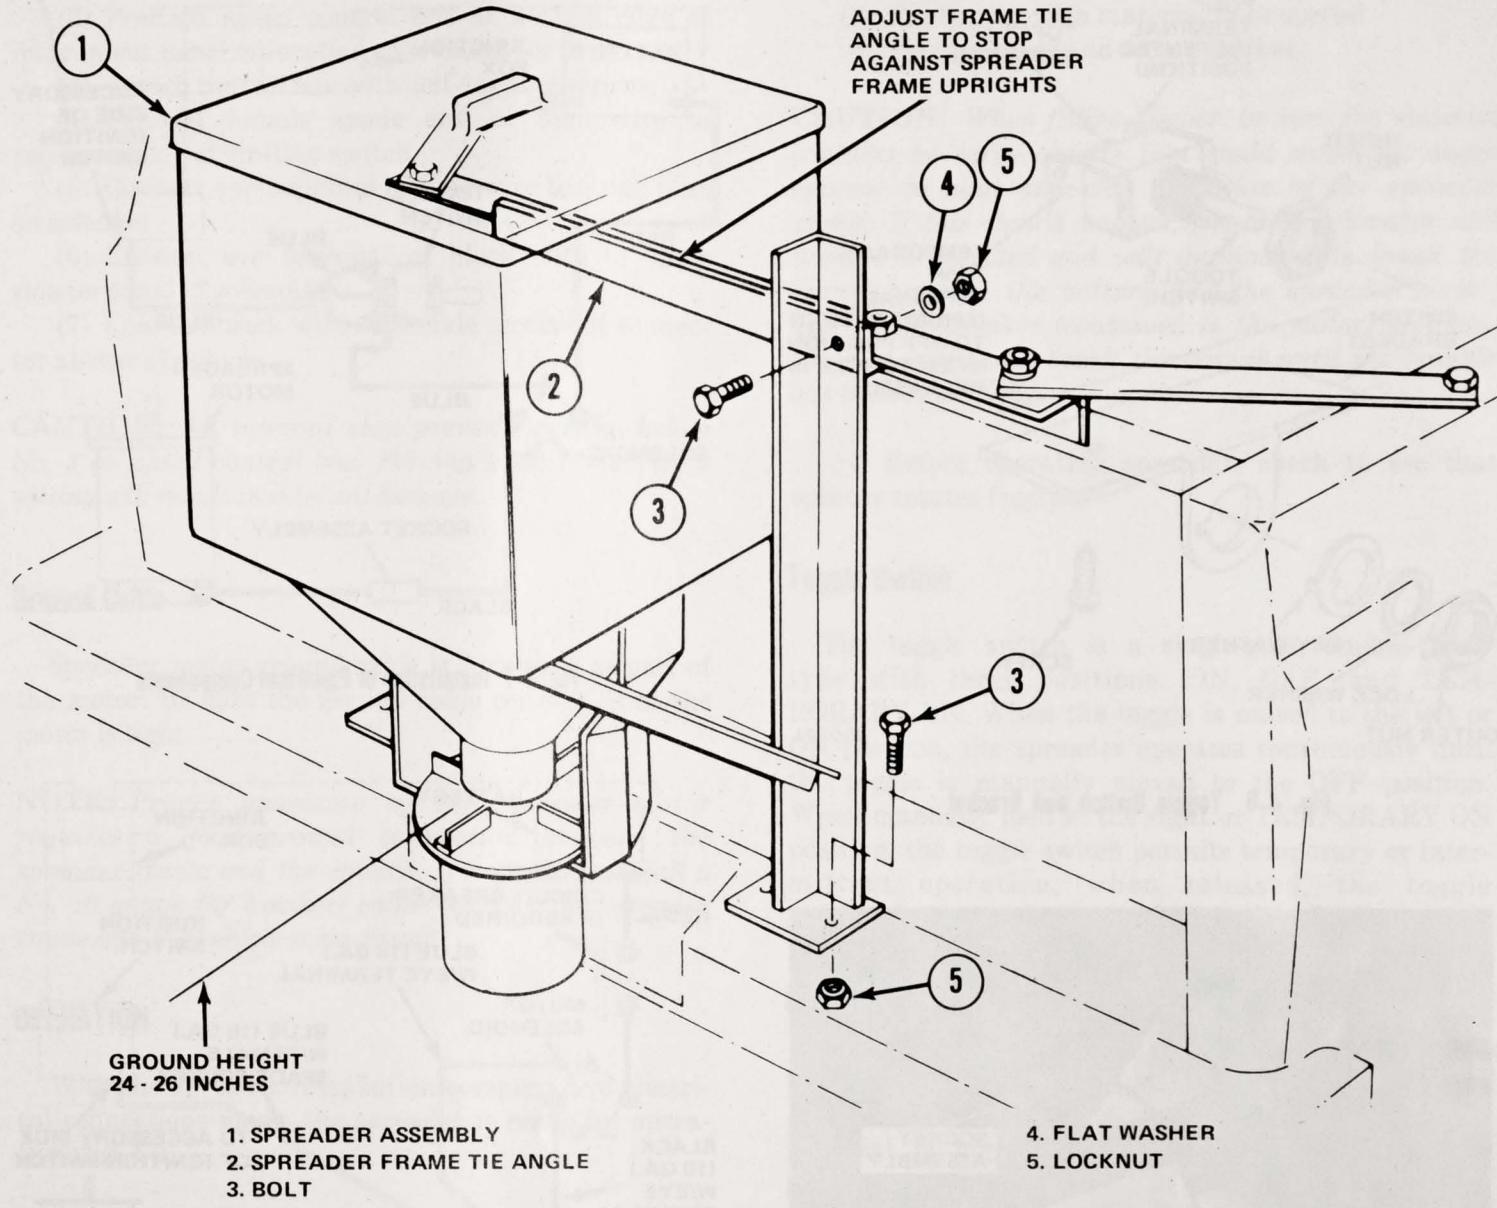

Fig. 4-4 Installation of Spreader and Spreader Frame
(1) Position spreader assembly on step bumper and align spreader frame uprights with drilled holes in spreader frame tie angle (fig. 4-4). Be sure that frame uprights are vertical and adjust tie angle to stop against spreader frame. Tighten nuts securely.
(2) Using drilled holes in spreader frame tie angle as a guide, drill a 7/16-inch hole in each spreader frame upright. Secure uprights to tie angle with bolts, flat washers, and locknuts.
(3) Using holes in feet of spreader frame uprights as a guide, drill four 5/16-inch holes through rear step bumper (fig. 4-4). Secure uprights to bumper with bolts and locknuts.
(4) Tighten all nuts and bolts.